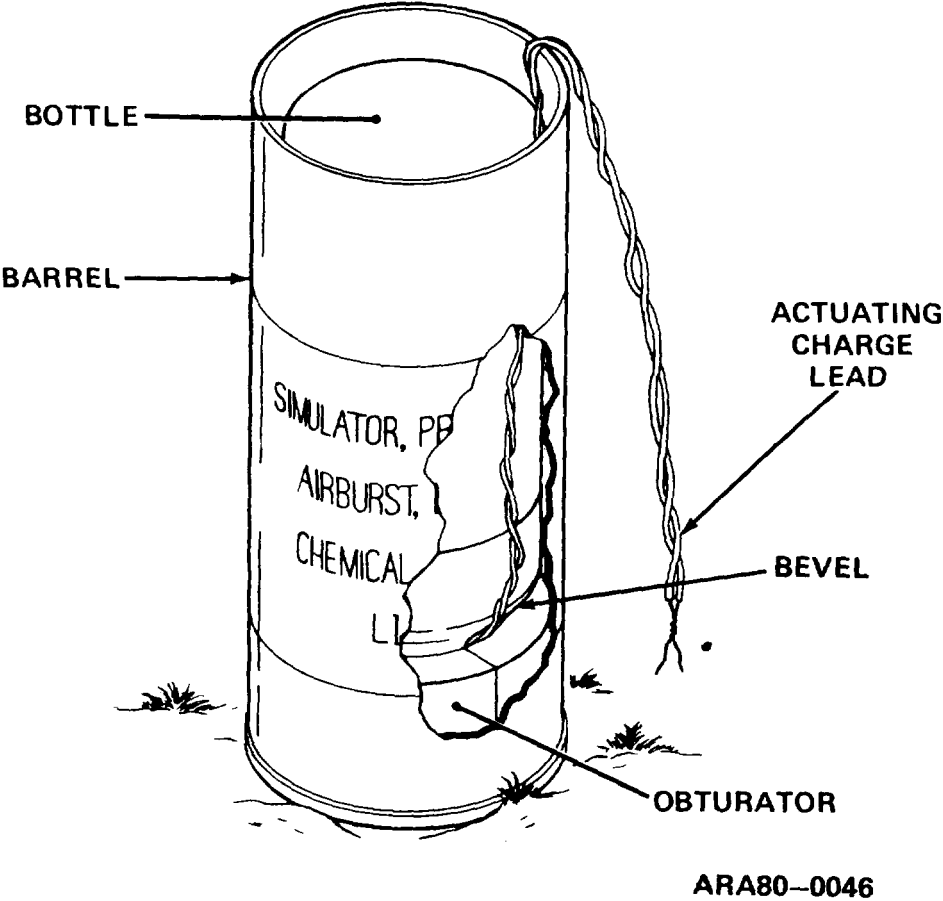

Figure 2-7. Assembled Projector.
(10) Turn bottle upside down and check for leaks. If bottle leaks, remove actuator by performing steps (6), (7), and (8) in reverse order. With actuator out of bottle, perform steps (6), (7), and (8) in proper order. If bottle continues to leak, replace projector assembly.
(11) Check that split obturator is in bottom of barrel with bevelled edge up (fig. 2-7). If bevelled side is not up, turn obturator over.
(12) Run actuator charge leads up side of bottle. Hold leads in position while sliding bottle into barrel.